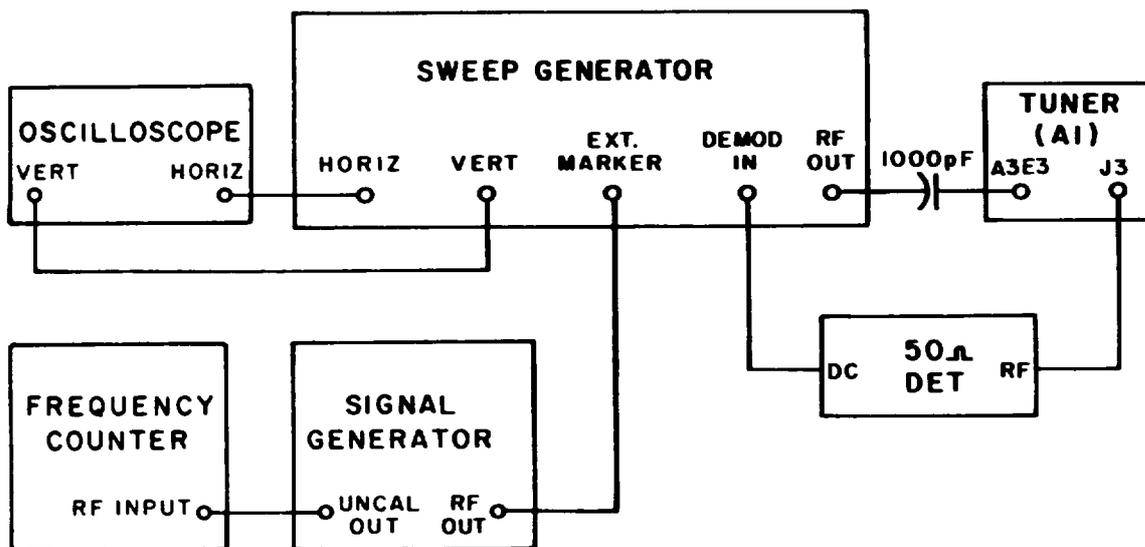

Figure 4-7. Test Setup, Tuner IF Output Amplifier Alignment
- (1) Connect the equipment as shown in Figure 4-7.
- (2) Set the oscilloscope controls for viewing a sweep response. Set the vertical gain control to view a 30 mV signal.
- (3) Set the sweep generator controls for a 60 MHz center frequency output and a sweep width of about 1 MHz/cm. Output level should be about -27 dBm. Also, establish a marker at 60 MHz.